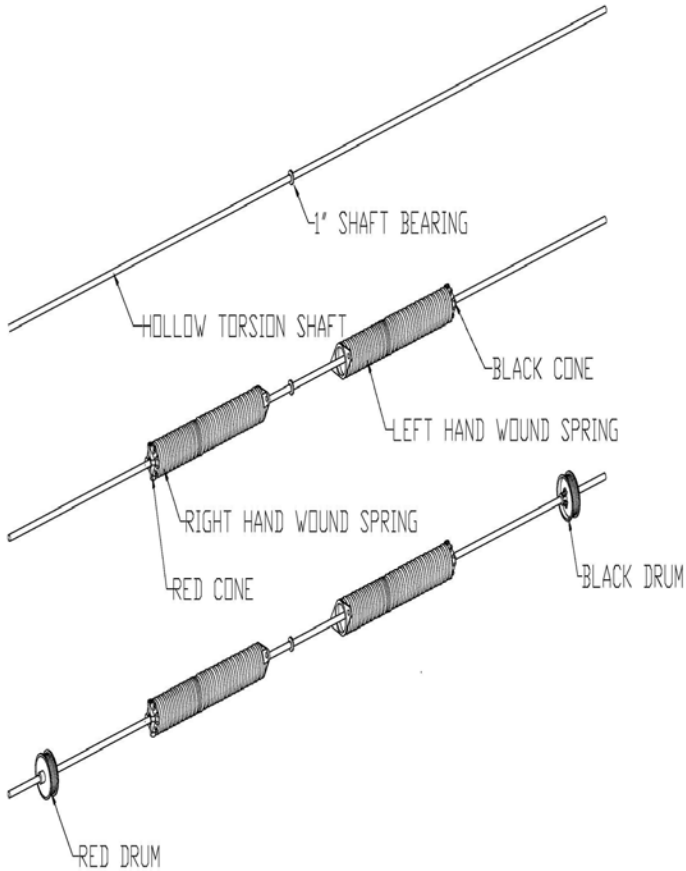

Figure 21
Note: Larger overhead doors are supplied with a two piece solid torsion shaft. This shaft must be coupled together. Figure 21 illustrates how the coupler is installed.
Step 22: Slide the 1" shaft bearing on the shaft. Slide the torsion spring(s) on the shaft. **The springs with the red winding cone should go on the left side and the spring with the black winding cone should go on the right side. See figure 21.**
Step 23: Finally, the cable drums should be slid on the shaft. The red drum should go on the left and the black drum on the right. Make sure the set screws are facing toward the center of the door. See figure 21 or 21a.